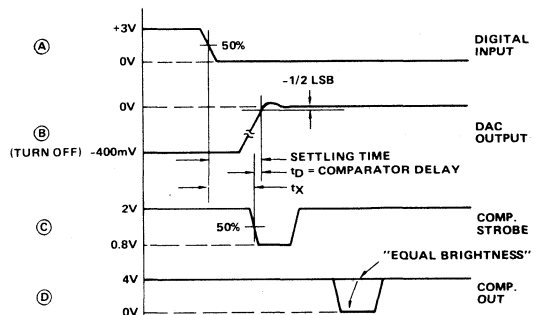

FIGURE 3B.
As shown in Figure 3B, settling time equals t_X plus the comparator delay ($t_D = 15\text{ns}$). To measure t_X ,
- Adjust the V_{LSB} supply for 50 percent triggering at COMP. STROBE. This is indicated by traces of equal brightness on the oscilloscope display as shown in Figure 3B. Note DVM reading.
- Switch the LSB to Pulse (P).
- Measure t_X from scope as shown in Figure 3B. Settling time equals $t_X + t_D$, i.e. $t_X + 15\text{ns}$.